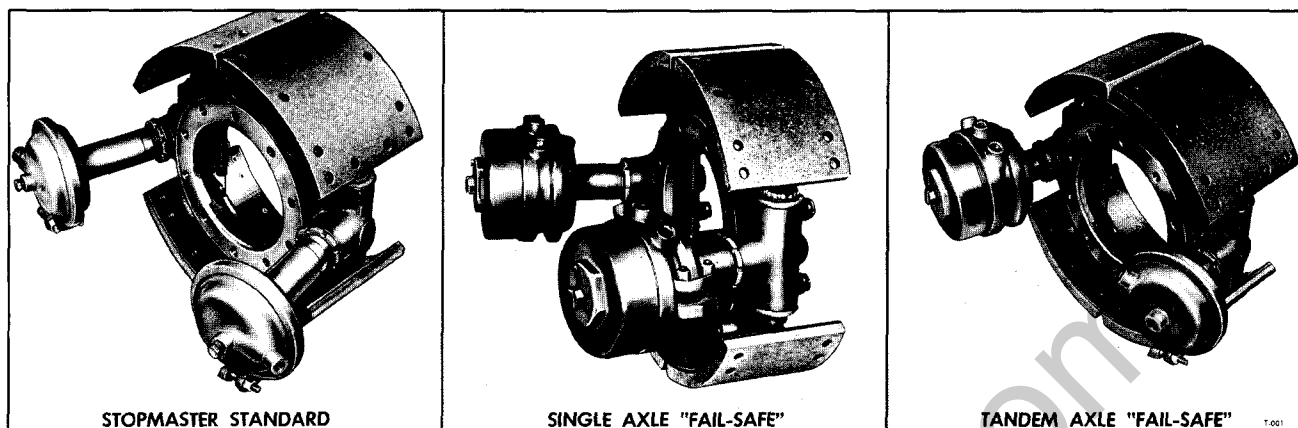

Figure 24—Stopmaster Brake Assemblies
The Stopmaster type brake differs from the conventional "S" cam type brake in several respects. The air chamber push rod is connected to the brake shoes through a series of wedges, rollers, and plungers rather than through a slack adjuster and camshaft. Stopmaster brakes employ two different type air chambers; (1) a standard air chamber which is operated by air pressure and (2) a "Fail-Safe" air chamber which can be operated either by air pressure or by spring pressure. There are three basic variations of Stopmaster brakes shown in figure 24.